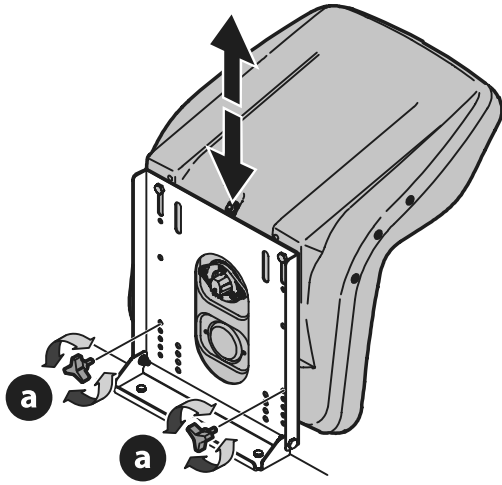

Figure 17
1. Remove the knobs (a) (Figure 17).
3. Replace the knobs into one of the four hole settings and tighten securely (Figure 17).